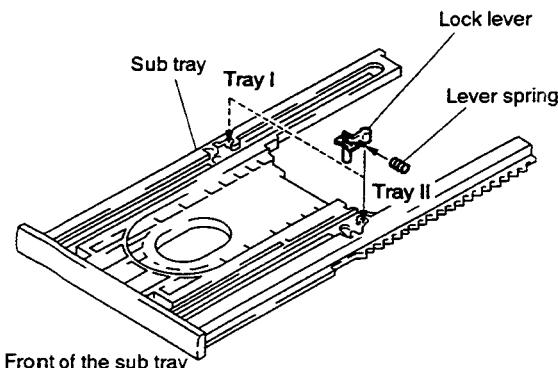

Fig. 2-12
(1) As shown in Fig. 2-12, attach the lock lever and the lever spring to the sub tray (the two same forms), which must be placed to the left hand of the sub tray, if the sub tray is attached with the tray I, and which must be placed to the right hand of it, if it is attached with the tray II, looking from the front of the sub tray.